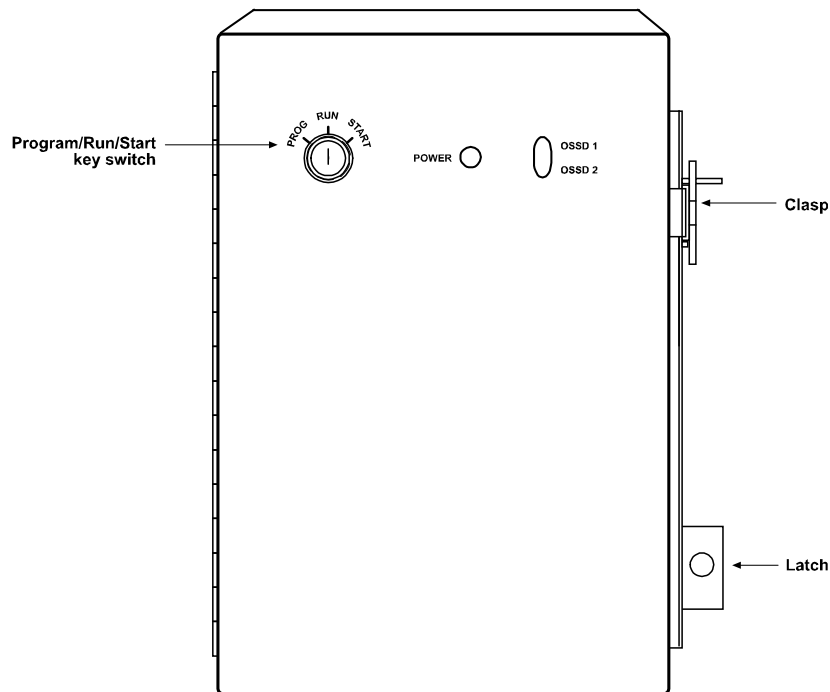

Figure 1-3. Shadow 9 Control
An optional Shadow 9 control (see Figure 1-3) is available. Use it unless you are connecting Shadow 9 to a Wintriss Clutch/Brake Control. The optional Shadow 9 control can accommodate any size of transmitter and receiver. No special settings are required. The optional Shadow 9 control contains a power supply and relay circuitry.
For added security, the optional Shadow 9 control comes standard with a key switch. The Program/Run/Start key switch is used alone to reset the light curtain after machinery has been stopped due to a fault (see Figure 1-3). The Program/Run/Start key switch can also be used to program a fixed blanking pattern. See *Programming a Fixed Blanking Window*, page 103, for details. In addition, the clasp which secures the door of the control can be padlocked to prevent unauthorized personnel from gaining entry. A screw-down latch for securing the door is also provided.
- Optional Shadow 9 control box: Power LED and safety relay LEDs (see Figure 1-3)
The ON/OFF LED illuminates red, the yellow INT-LK (interlock) LED illuminates, the two safety relays are “Open” (de-energized). The Interlock state can be cleared only when the sensing field is free of obstructions and the Program/Run/Start key switch is turned to the START position and released (see Figure 1-3, page 18).